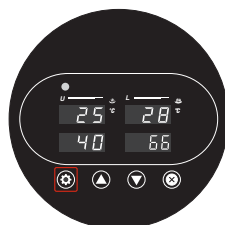

Fig. 3
3. Press Set ⚙ button on the control panel (Fig. 3) to go to the temperature setting mode for the bottom heat platen.